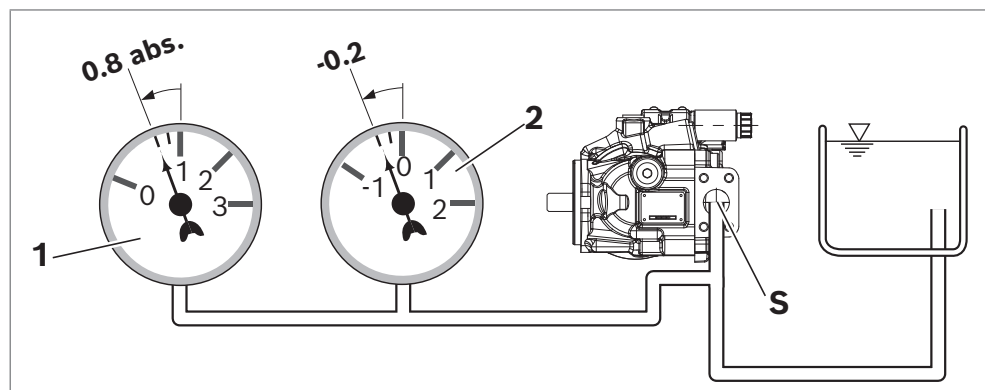

Fig. 5: Suction pressure
- ▶ Make sure that a minimum suction pressure of 0.8 bar absolute is present at port **S** during operation for all installation positions and installation locations of the axial piston pump; see Fig. 5. See data sheet for other pressure values.